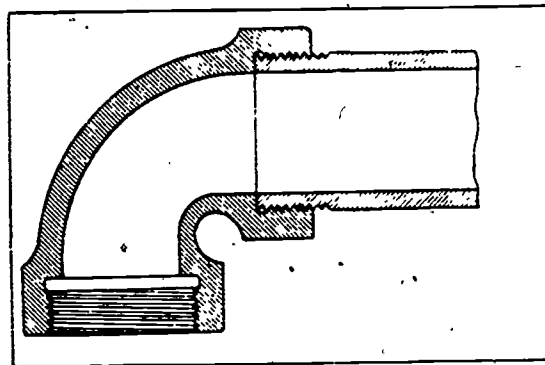

Figure 3-19. Recessed fitting.
**Materials Used for Water Closet Vents and Drains.** Soil branch lines may be constructed of cast-iron, galvanized wrought-iron, or copper-iron soil pipe and fittings. Cast-iron pipes and fittings are used when soil and branch lines are installed underground or in concrete floors. Threaded galvanized wrought-iron pipe may be used for soil stacks or branch lines when the stack or branch is not concealed in a wall or floor. Special cast-iron recessed fittings, like the one shown in figure 3-19, are used with threaded wrought-iron pipe. The recess of the female thread creates a smooth interior at the joint, which in turn lessens the probability of grease or solids causing a stoppage in the flow.